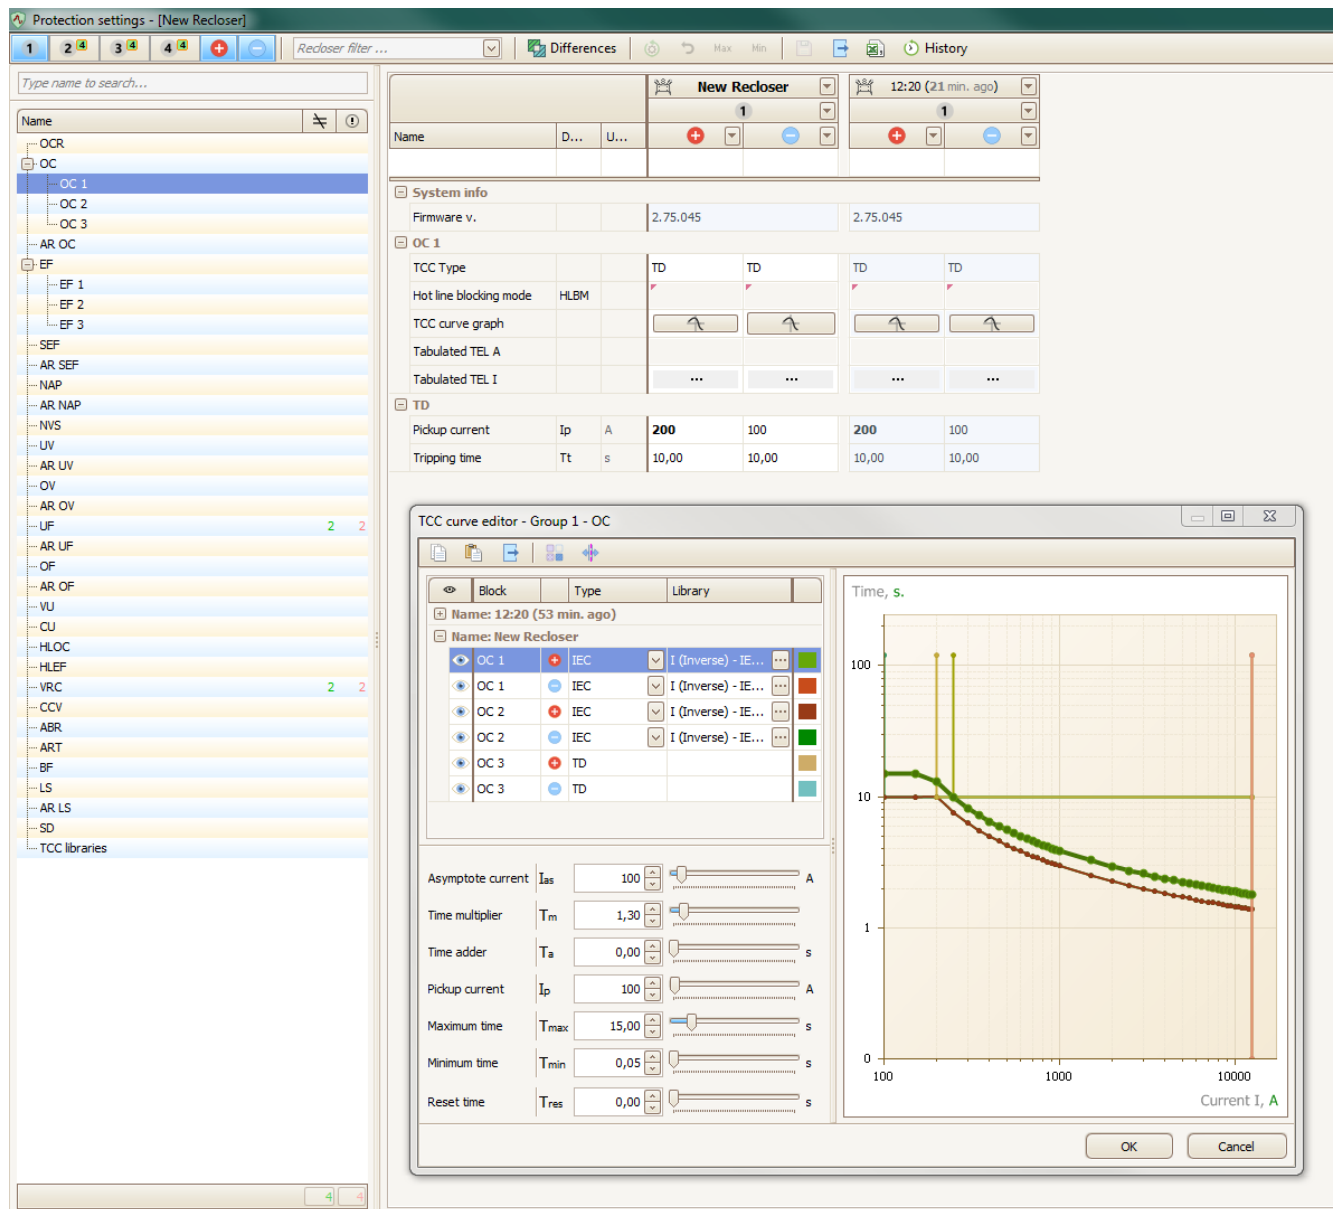

Figure 72
- 3) "Protection settings" window will popup where it is possible to edit settings, pick-up values and TCC curves (Figure 72).